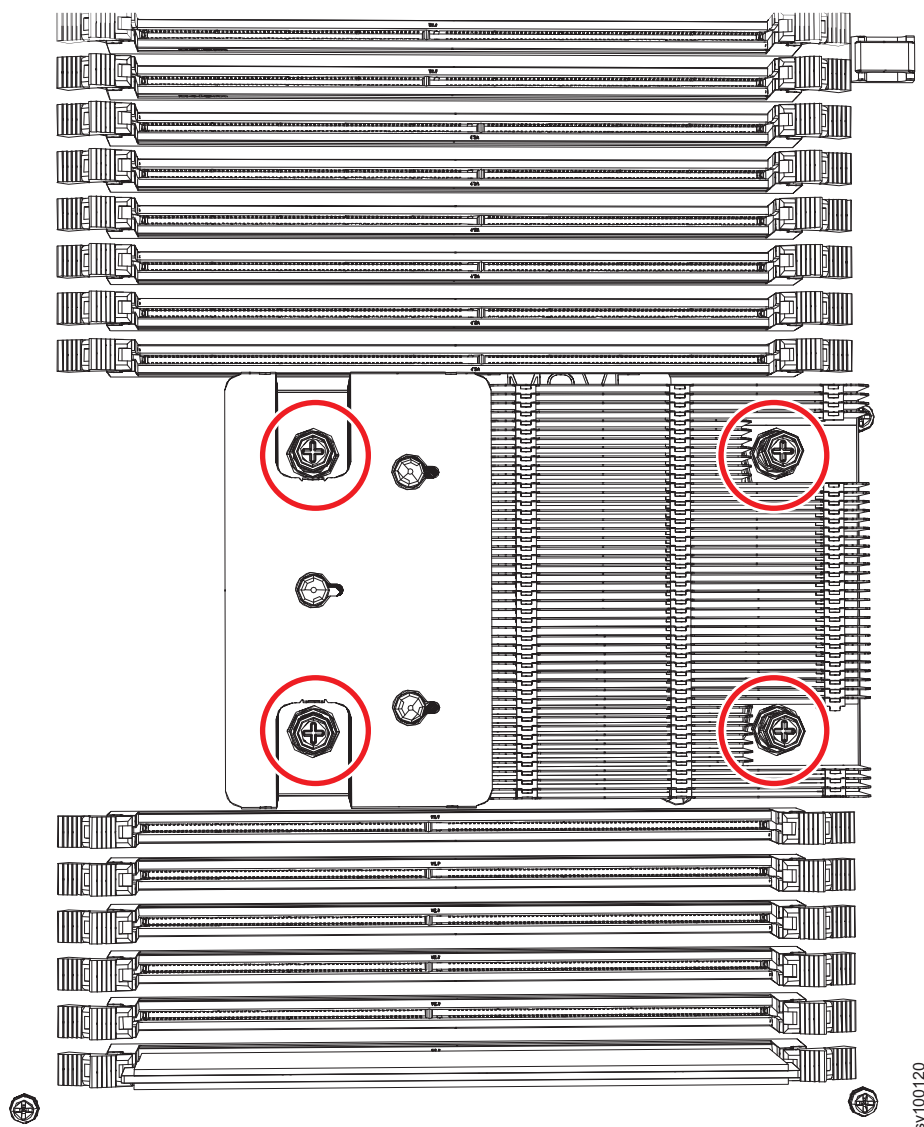

Figure 193. Installing the heat sink on the 2145-SV1 microprocessor
8. Align the heat sink on top of the microprocessor, as shown in Figure 193 on page 236. If you are installing a new heat sink, remove the grease cover.